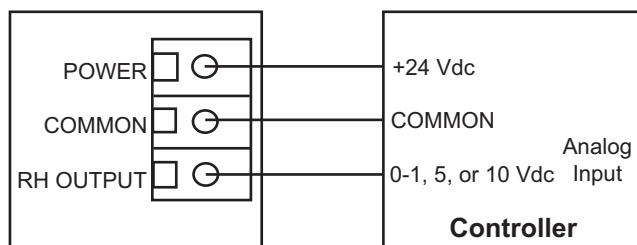

Fig. 26 — Zone Humidity Sensor Wire Connections
15. Insert the 2 wires into the RH sensor's screw terminal connector and tighten the screw. See Fig. 26.